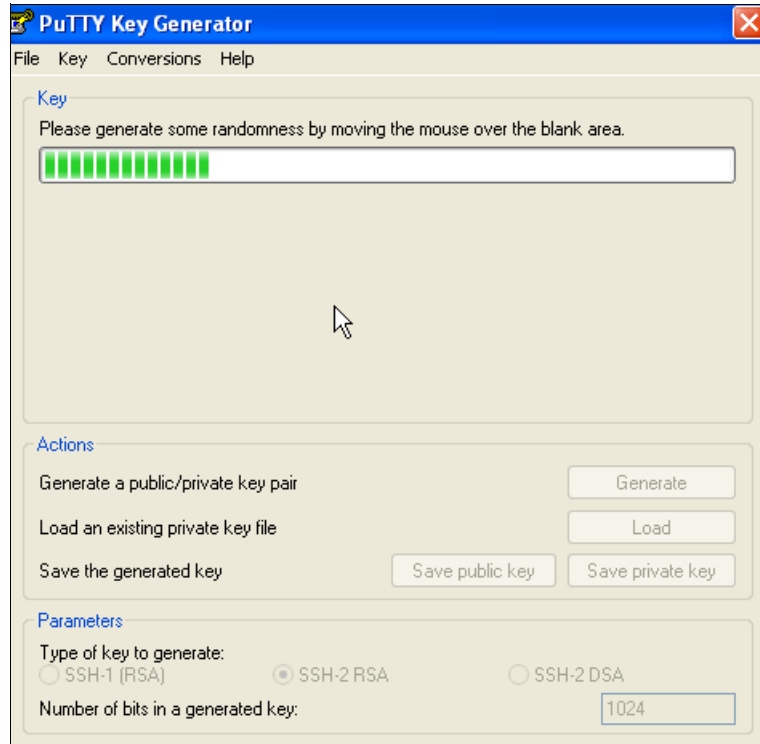

Figure A-2 Generate keys
3. Click **Generate** and move the cursor over the blank area to generate the keys, as shown in Figure A-2.